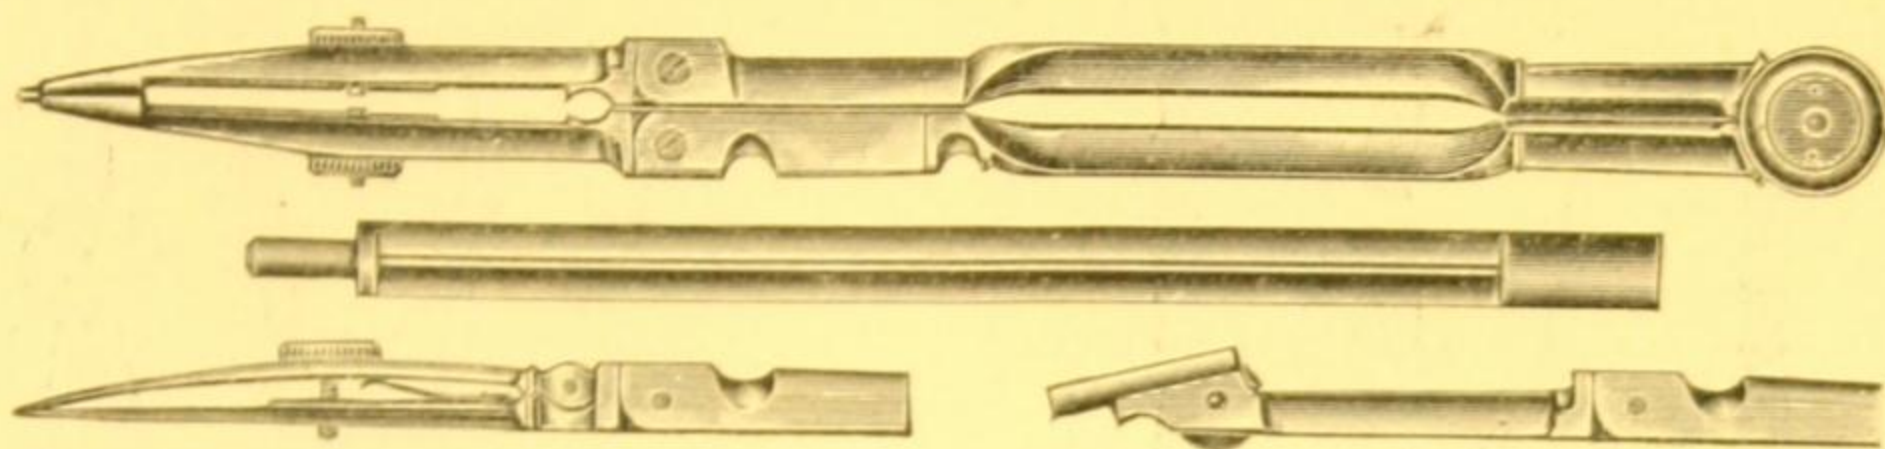

Fig. 175.
- SM 694.—**Half Set**, first grade English electrum instruments consisting of 6-inch Compass with sector head and double knee joints, nut and bolt needle points, jointed pen with hinged nib, jointed pencil and divider legs, and lengthening bar..... Fig. 175      £1 15 0